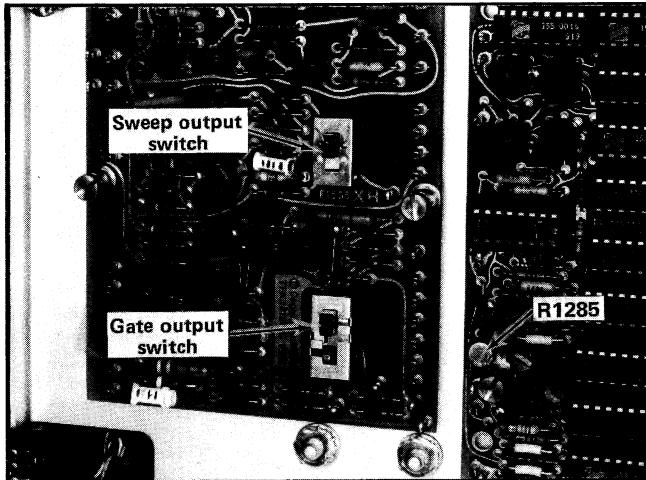

Fig. 5-12. Location of Sweep output switch and Gate output switch.
e. Secure the hinged chassis in place and set the Gate Selector switch on the Output Signal board (see Fig. 5-12) to B position.
e. Set the Gate Selector switch on the Output Signal board (see Fig. 5-12) to A position.
h. Set the Gate Selector switch on the Output Signal Board (see Fig. 5-12) to B position.
j. Set the Gate Selector switch on the Output Signal board (see Fig. 5-12) to Dly'd position and select the B Starts After Delay mode of the Type 7B51 Delaying Time Base.